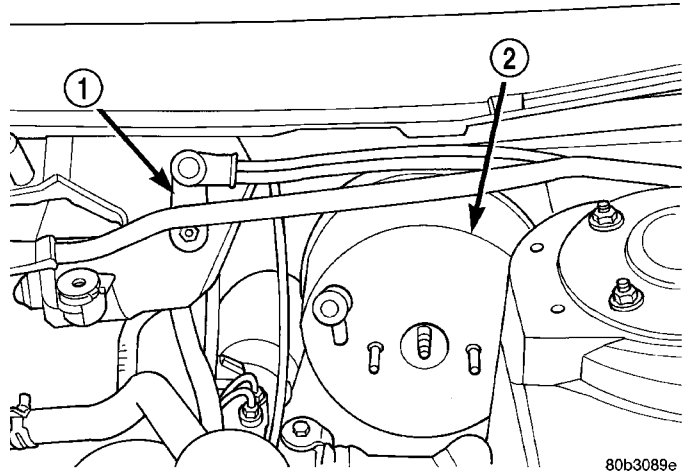

Fig. 80 Wiper Crank Lever Positioning
(9) Disconnect vacuum hose from power brake booster check valve. **DO NOT REMOVE CHECK VALVE FROM POWER BRAKE BOOSTER.**
(10) From under instrument panel, position a small screwdriver between the center tang on the power brake booster input rod to brake pedal pin retaining clip.
(11) Rotate screwdriver enough to allow retainer clip center tang to pass over end of brake pedal pin and pull retainer clip off pin. **Discard retainer clip it is not to be reused, replace only with a new retainer clip.**
(12) Remove the four nuts that attach the power brake booster to the vehicle dash panel. Nuts are accessible from under the dash panel in the area of the steering column and pedal bracket.
(13) Rotate the windshield wiper motor crank lever until the crank lever points in the 12 o'clock position (Fig. 80).